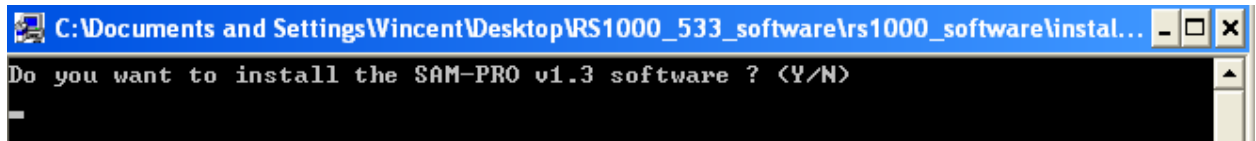

Fig. 01
- Step 2:** Follow prompts until you are finished installing the RS1000 software. A pop-up window will be shown: (Fig. 01)